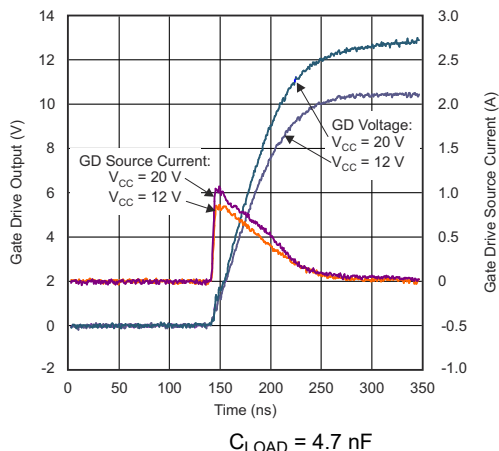
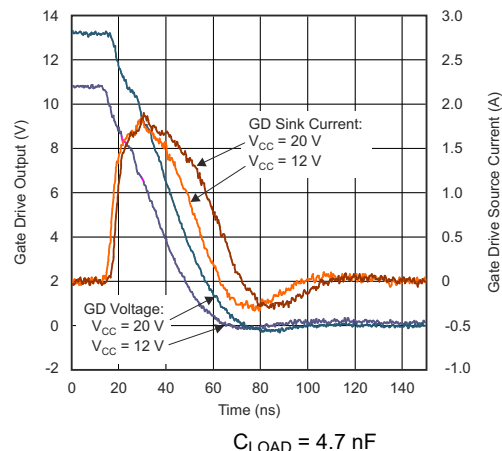
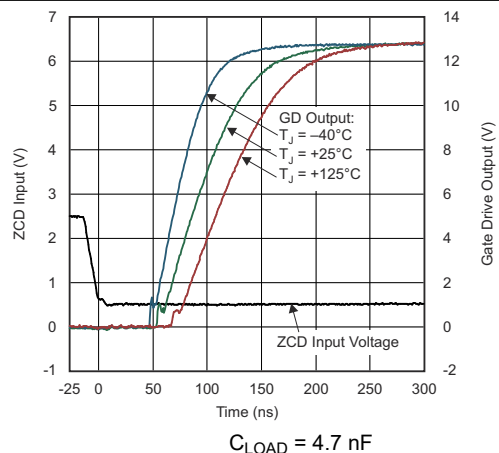
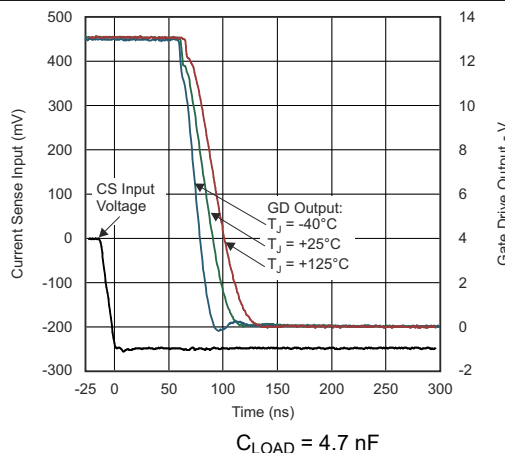

Figure 6-13. Gate Drive Rising vs Time
Figure 6-14. Gate Drive Falling vs Time
Figure 6-15. Gate Drive Rising and Delay From ZCD Input vs Time
Figure 6-16. Gate Drive Falling and Delay From CS Input vs Time
- (1) Excessive VCC input voltage and current will damage the device. This clamp will not protect the device from an unregulated bias supply. If an unregulated bias supply is used, a series-connected Fixed Positive-Voltage Regulator such as the UA78L15A is recommended. See the Absolute Maximum Ratings table for the limits on VCC voltage, current, and junction temperature.
- (2) Refer to Figure 6-13, Figure 6-14, Figure 6-15, and Figure 6-16 of the Typical Characteristics for typical gate drive waveforms.
- (3) ZCD blanking times are ensured by design.
- (4) Gate drive on-time is proportional to (VCOMP - 0.125 V). The on-time proportionality factor, KT, scales linearly with the value of RTSET and is different in two-phase and single-phase modes. The minimum switching period is proportional to RTSET.
- (5) An output on-time is generated at both GDA and GDB if both ZCDA and ZCDB negative-going edges are not detected for the restart time. In single-phase mode, the restart time applies for the ZCDA input and the GDA output.
- (6) Thermal shutdown occurs at temperatures higher than the normal operating range. Device performance above the normal operating temperature is not specified or assured.